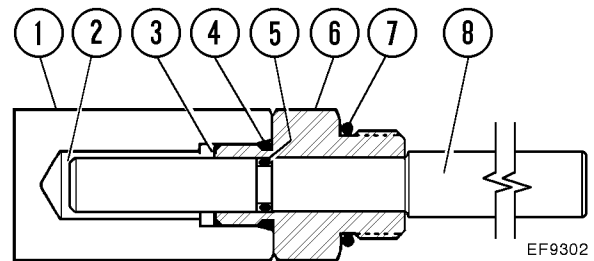

FIGURE 30-15. BRAKE WEAR INDICATOR
Check brake disc wear by using brake wear indicators (EF9302) that are included in the tool group that is shipped with the truck. Refer to Figure 30-15.
- a. Remove cover (1, Figure 30-15) from the brake wear indicator.
- b. Push pin (8) inward until it stops against the brake piston.
- c. Measure the distance from indicator pin end face (2) to housing face (3).
- If indicator pin end face (2) is even with housing face (3) or below, disc pack is worn to the maximum safe wear limits. The brakes should be scheduled for rebuild.
- If indicator pin end face (2) extends beyond housing face (3), brake disc wear is still within allowable limits.
- d. Pull pin (8) outward until it stops against tool housing (6). Install cover (1).